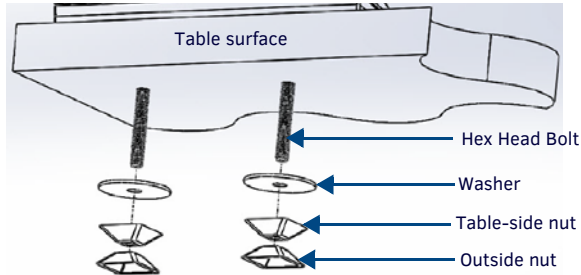

FIG. 7 INSTALLATION, UNDERSIDE OF THE TABLE SURFACE
- On the underside of the table, put a washer and then one of the tamper-proof nuts on the end of each hex head bolt (FIG. 7). Make sure that the wide side of the tamper-proof nut is facing the underside of the table. Finger-tighten the tamper-proof nut.
- Attach the spare outside nut to the end of the hex head bolt, wide side away from the table, and finger-tighten to the table-side nut (FIG. 7).